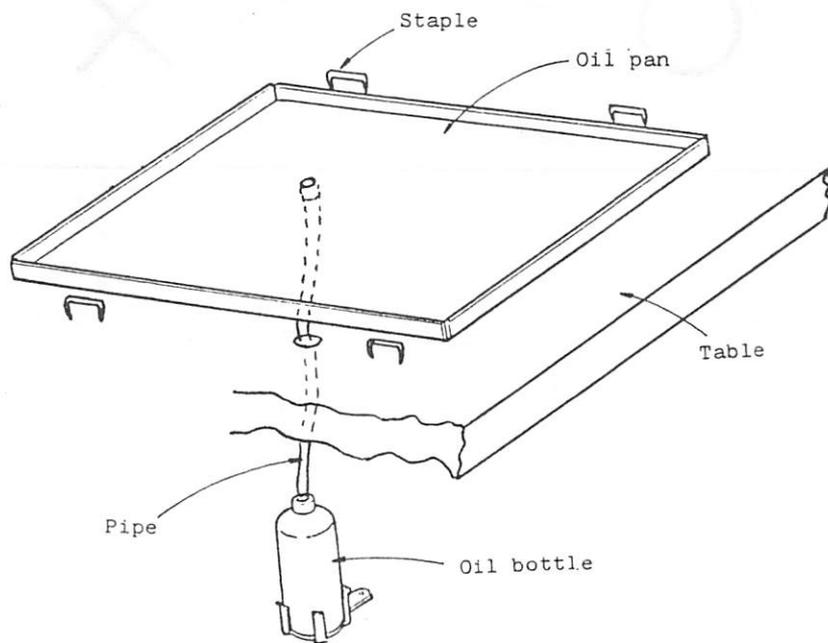

Fig. 4.4
(1) Insert the head rest into the corresponding holes in the table.
(2) Attach two hinges (B) to the unpacked machine head.
(3) Put the head on the table so that it rests on the six rubber pads and two hinges.
(4) Raise the head to rest it vertically and pass the cords and air tubes through the holes in the table.
(5) Install the oil pan as shown in Fig. 4.4. and drive four staples to secure the oil pan in position.
(6) Install the V belts to the machine pulley and the motor pulley and return the head to horizontal position.
(7) Install the belt cover (large) to the machine head with screws.
(8) Install the belt cover (small) to the table with screws.